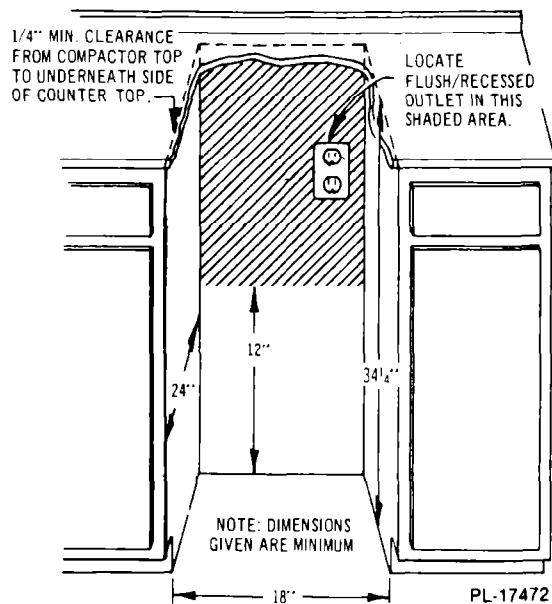

Fig. 2
- c. A minimum 1/4" clearance **MUST BE MAINTAINED** between compactor top and counter top for service accessibility. (See Fig. 2).
1. Place compactor in front of proposed under-counter location. Slide compactor sideways with enough room to insert 3-pronged plug into the 3-prong wall receptacle (in shaded area of Fig. 2). Make certain that the cord is secured in the clamp at top rear of unit. **NOTE:** If it is desired to change the front panels, you should do it prior to plugging the compactor in. See the separate instruction sheet included.